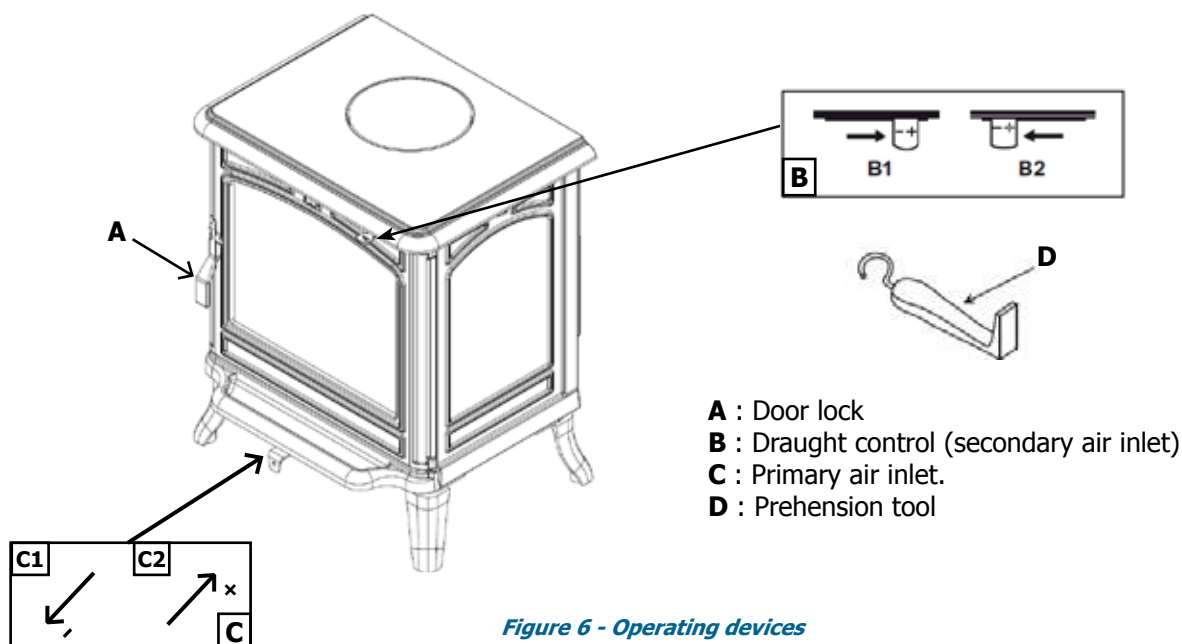

Figure 6 - Operating devices
3.2. Instructions for use with wood*(Figure 6)***3.2.1. Lighting**
3.3. Instructions for use with smokeless fuels**3.3.1. Lighting** *(Figure 6)*